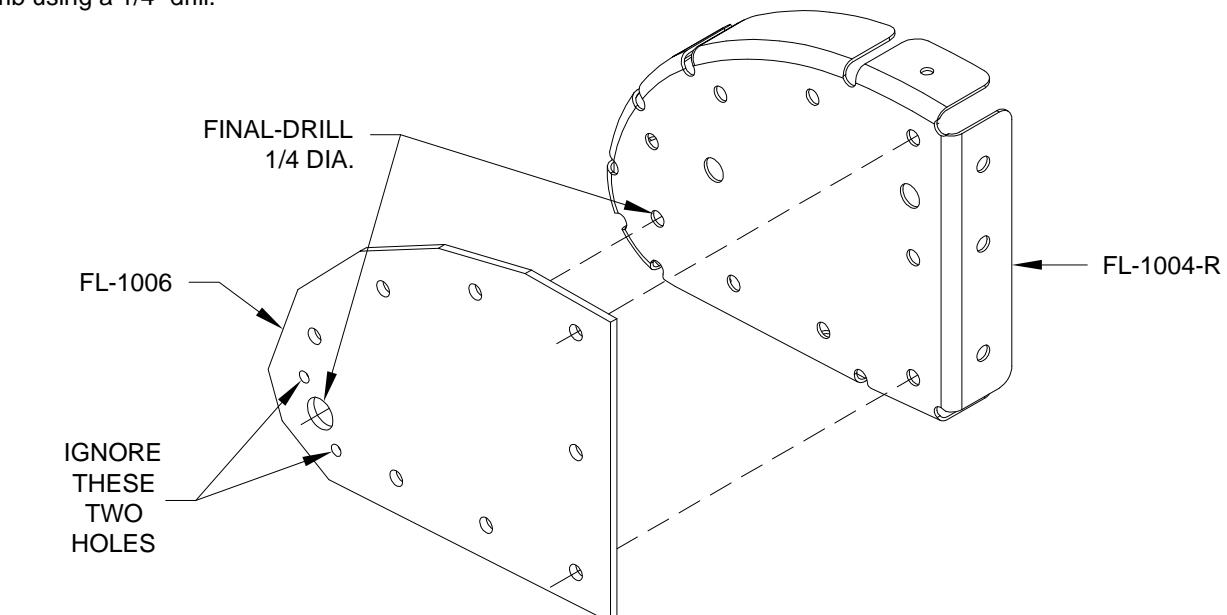

FIGURE 5: INBOARD ROD END RIB SUBASSEMBLY
Step 5: Make the inboard rod end rib subassembly by clecoing an FL-1006 Doubler to an FL-1004-R Nose Rib as shown in Figure 5. Final-Drill #30 the 1/8" holes common to the two parts.